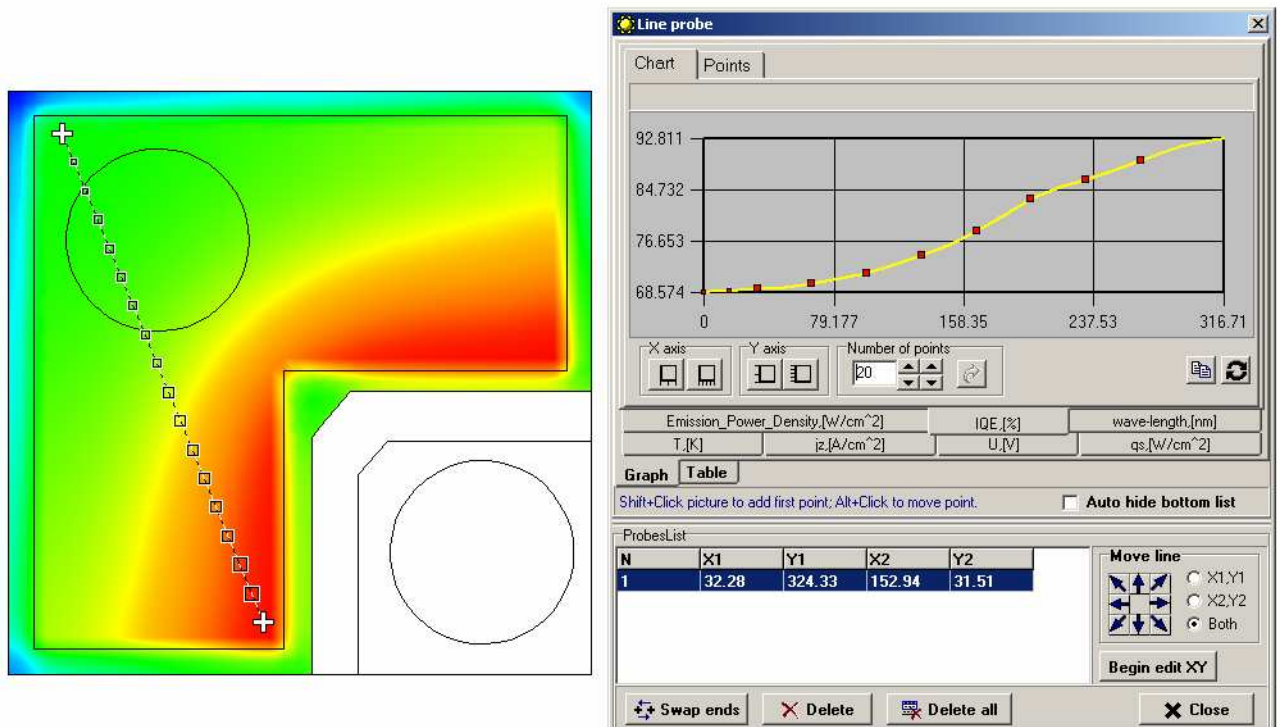

Fig. 8
- **Line** Probe mode provides visualization of 1D distributions along the user defined cross-sections. It is available via the Probe -> Line Probe menu item on top of the window. This opens the *Line Probe* dialog window (see Fig. 8) which provides 1D plots of the distributions of all variables along the specified line, specification of new lines, and displacement of the endpoints of the existing ones.